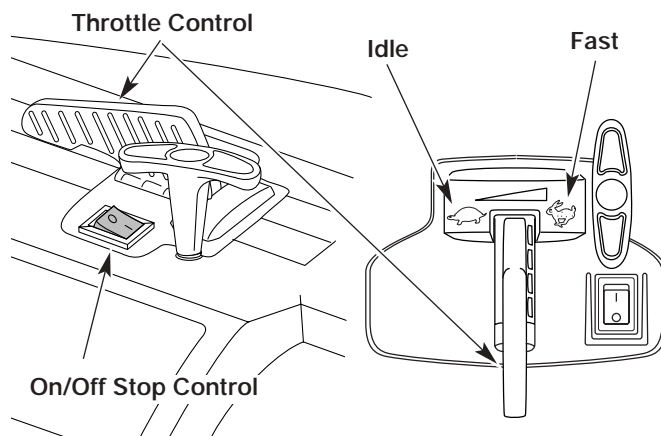
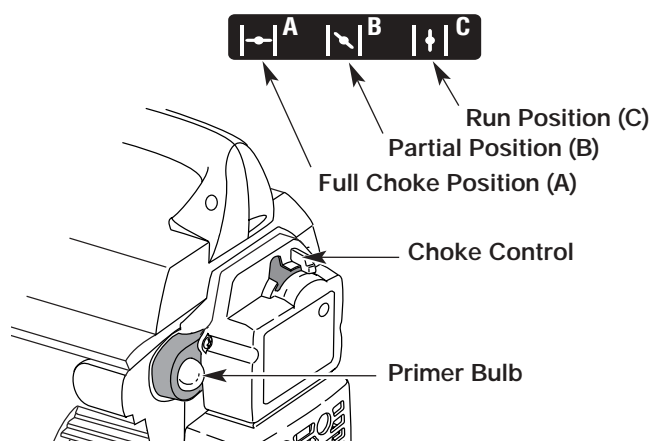
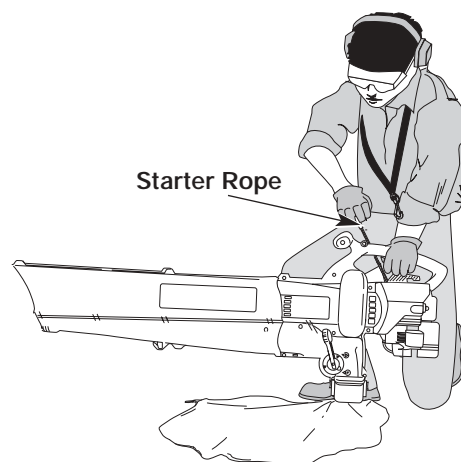

Fig. 9
Fig. 10
Fig. 11
WARNING: Avoid accidental starting. Make sure you are in the starting position when pulling the starter rope (Fig. 11). To avoid serious injury, the operator and unit must be in a stable position while starting.
3. Fully press and release the primer bulb 10 times, slowly, until **FUEL IS VISIBLE IN THE PRIMER BULB** (Fig. 10). If you can't see fuel in the bulb, press and release the bulb as many times as it takes before you can see fuel in it.
4. Place the choke lever in the **FULL** choke (|←|) position (Fig. 10).
5. Place the unit in the starting position (Fig. 11). Move the throttle control to the fast position (↗) (Fig. 9).
7. Place the choke lever in the **PARTIAL** choke (|↘|) position (Fig. 10).
8. Pull starter rope briskly 1 to 3 times to start the engine (Fig. 11).
NOTE: If the engine floods while trying to start, place the choke lever in the **RUN** (|↑|) position (Fig. 10). Move the throttle control to the fast position (↗) (Fig. 9). Pull the starter rope briskly. The engine should start with three (3) to eight (8) pulls.
NOTE: Choking is unnecessary when starting a warm engine. Put the throttle control in the fast position (↗) (Fig. 9) and start unit with the choke control in the **PARTIAL** (|↘|) position (Fig. 10).
1. Move the throttle control to the idle position (↖) (Fig. 9). Allow the engine to cool down by idling for 10-15 seconds.
2. Press the On/Off Stop control down in the **STOP** (O) position until the engine comes to a complete stop.
1. Press the On/Off Stop control down in the **STOP (O)** position until the engine comes to a complete stop (Fig. 9).